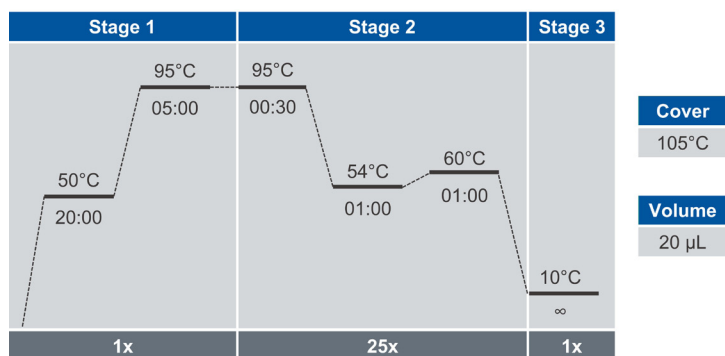

Figure 9. *Olink PCR1* program
1. Start the PCR program *Olink PCR1* on the ProFlex™ PCR instrument (Figure 9). Pause when the PCR block temperature reaches 50 °C.